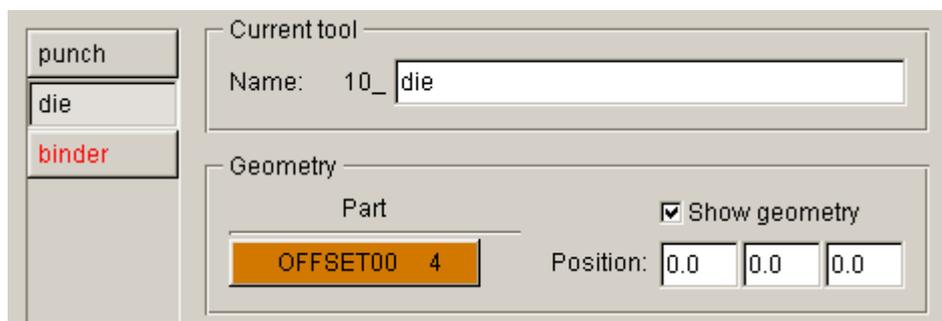

Figure 7.22 Die definition interface
17. From the DEFINE GEOEMTRY dialog box, click **Exit** button to return to tool definition interface. Now, the tag color of all tools is changed red into black. It means all tools have been defined. See figure 7.22.